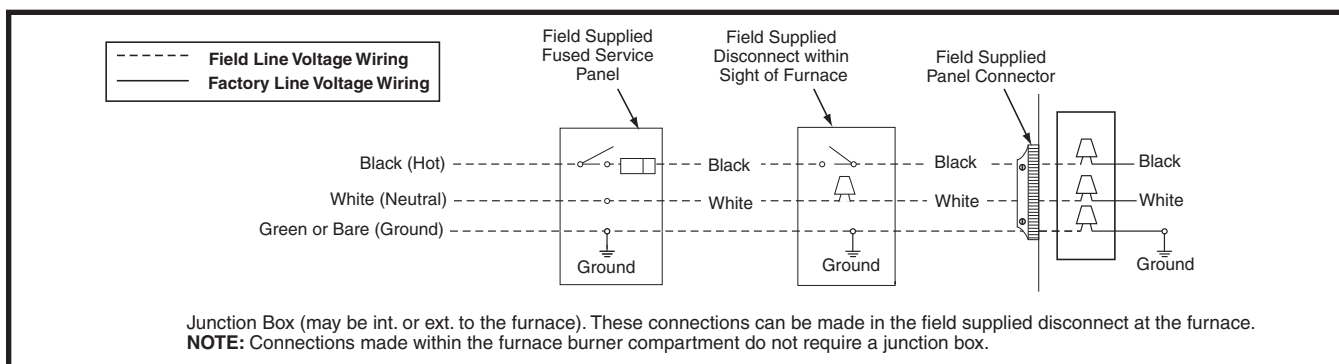

Figure 14. Line Voltage Field Wiring
- An electrical disconnect must be installed readily accessible from and located within sight of the furnace. See Figure 14 or the wiring diagram label inside of the control door. Any other wiring methods must be acceptable to authority having jurisdiction.
- Proper line voltage polarity must be maintained in order for the control system to operate correctly. Verify the incoming neutral line is connected to the white wire and the incoming "hot" line is connected to the black wire. The furnace will not operate unless the polarity and ground are properly connected as shown in Figure 14, (page 15).
The operating sequences for the heating, cooling, and fan modes are described below. Refer to the field and furnace wiring diagrams: Figure 14, \(page 15\), Figure 19, \(page 24\), and Figure 20, \(page 25\).
10. Blower off timing of 60, 90, 120, & 180 seconds (depending on the movable jumper setting) begins when the thermostat is satisfied. See Figure 14 \(page 16\). The control will operate at the selected HEAT speed of 60 seconds, then change to FAN speed for the remaining off delay time. If the blower off delay jumper is not present, the fan should still operate for 120 seconds at the selected HEAT speed. The indoor blower motor is de-energized after a blower off delay as selected by the movable jumper.